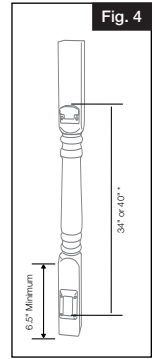

Fig. 4
- Push ¾" bolts down through the post plate and attach separate bottom plate from beneath deck surface using purchased nuts (posts can be leveled as needed by using supplied vinyl shims) (Fig. 4).
NOTE: If using a turned newel sleeve, be sure to leave enough flat area to accept rail attachment brackets (Fig. 4). Remove the top post insert set screw and the insert. Use this screw to attach the bottom post insert to the post. Slide the top insert onto the post after the turned sleeve has been installed.
- Insérer les boulons à travers les trous de la plaque de poteau, et fixer la plaque de base séparée depuis le dessous de la terrasse au moyen des écrous achetés. Au besoin, on peut mettre les poteaux de niveau en utilisant les cales en vinyle fournies. (Fig. 4).